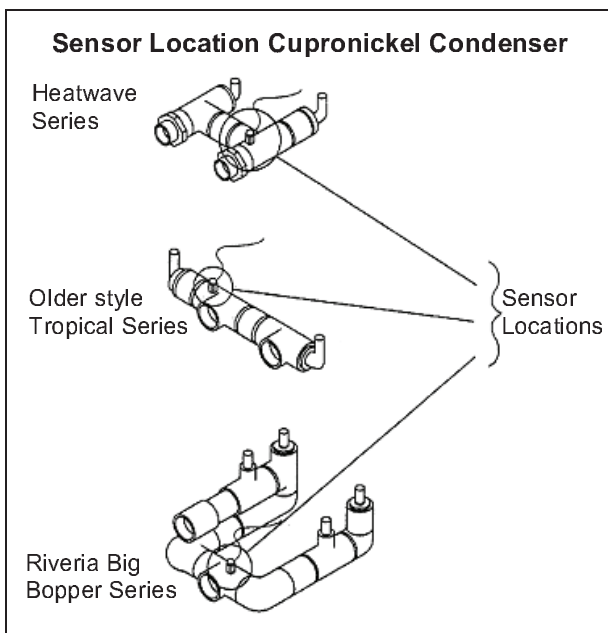
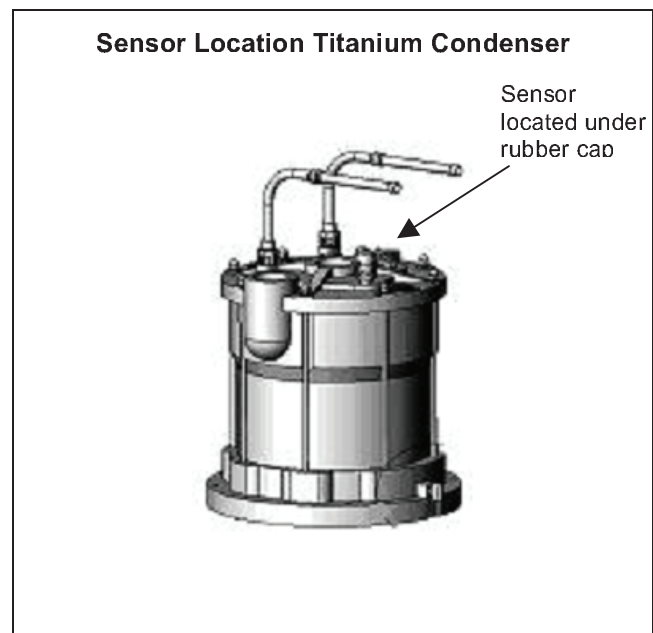

Figure 4
Figure 5
- 4) Locate Existing Sensor Probe: removing the protective spiral wrap, trace the two "WS" wires from the terminal board to the location of the water temperature sensor. Note: water temperature sensor will be found at water thermostat well. See Figure 4 and Figure 5 for possible water sensor locations.